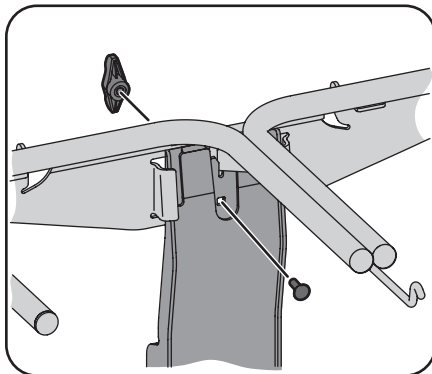

Figure 4-1
1. Install the hanger assembly onto the upright support assembly using a carriage bolt (710-0276) and wing knob (710-04122) from hardware pack 689-00579. See Figure 4-1.